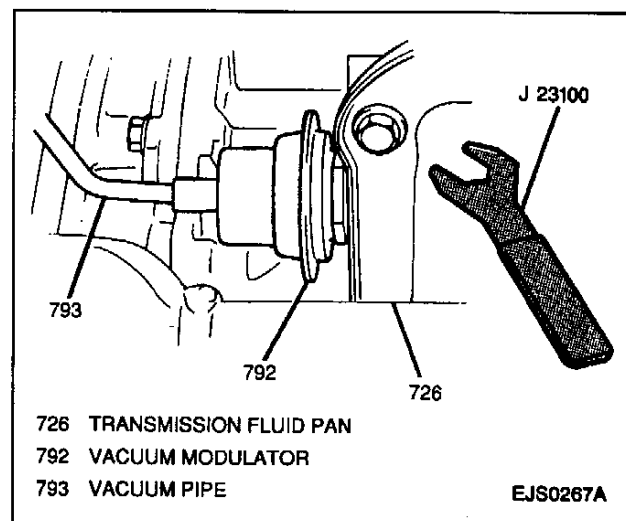

Figure 35—Removing Vacuum Modulator (3L30, 3-Speed)
Figures 35 and 36
2. Vacuum hose and pipe from vacuum modulator (Figure 35).
3. Vacuum hose and pipe to vacuum modulator (Figure 35).